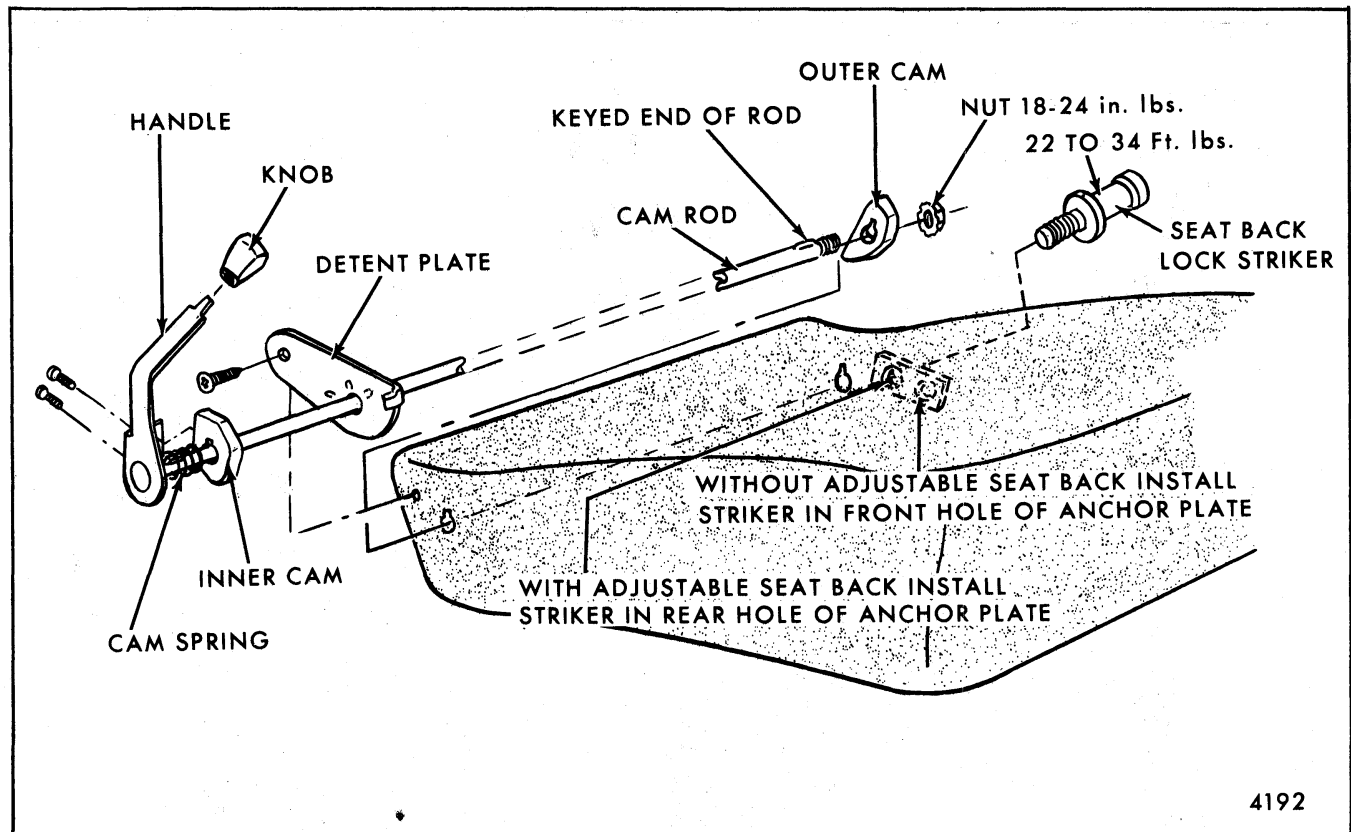
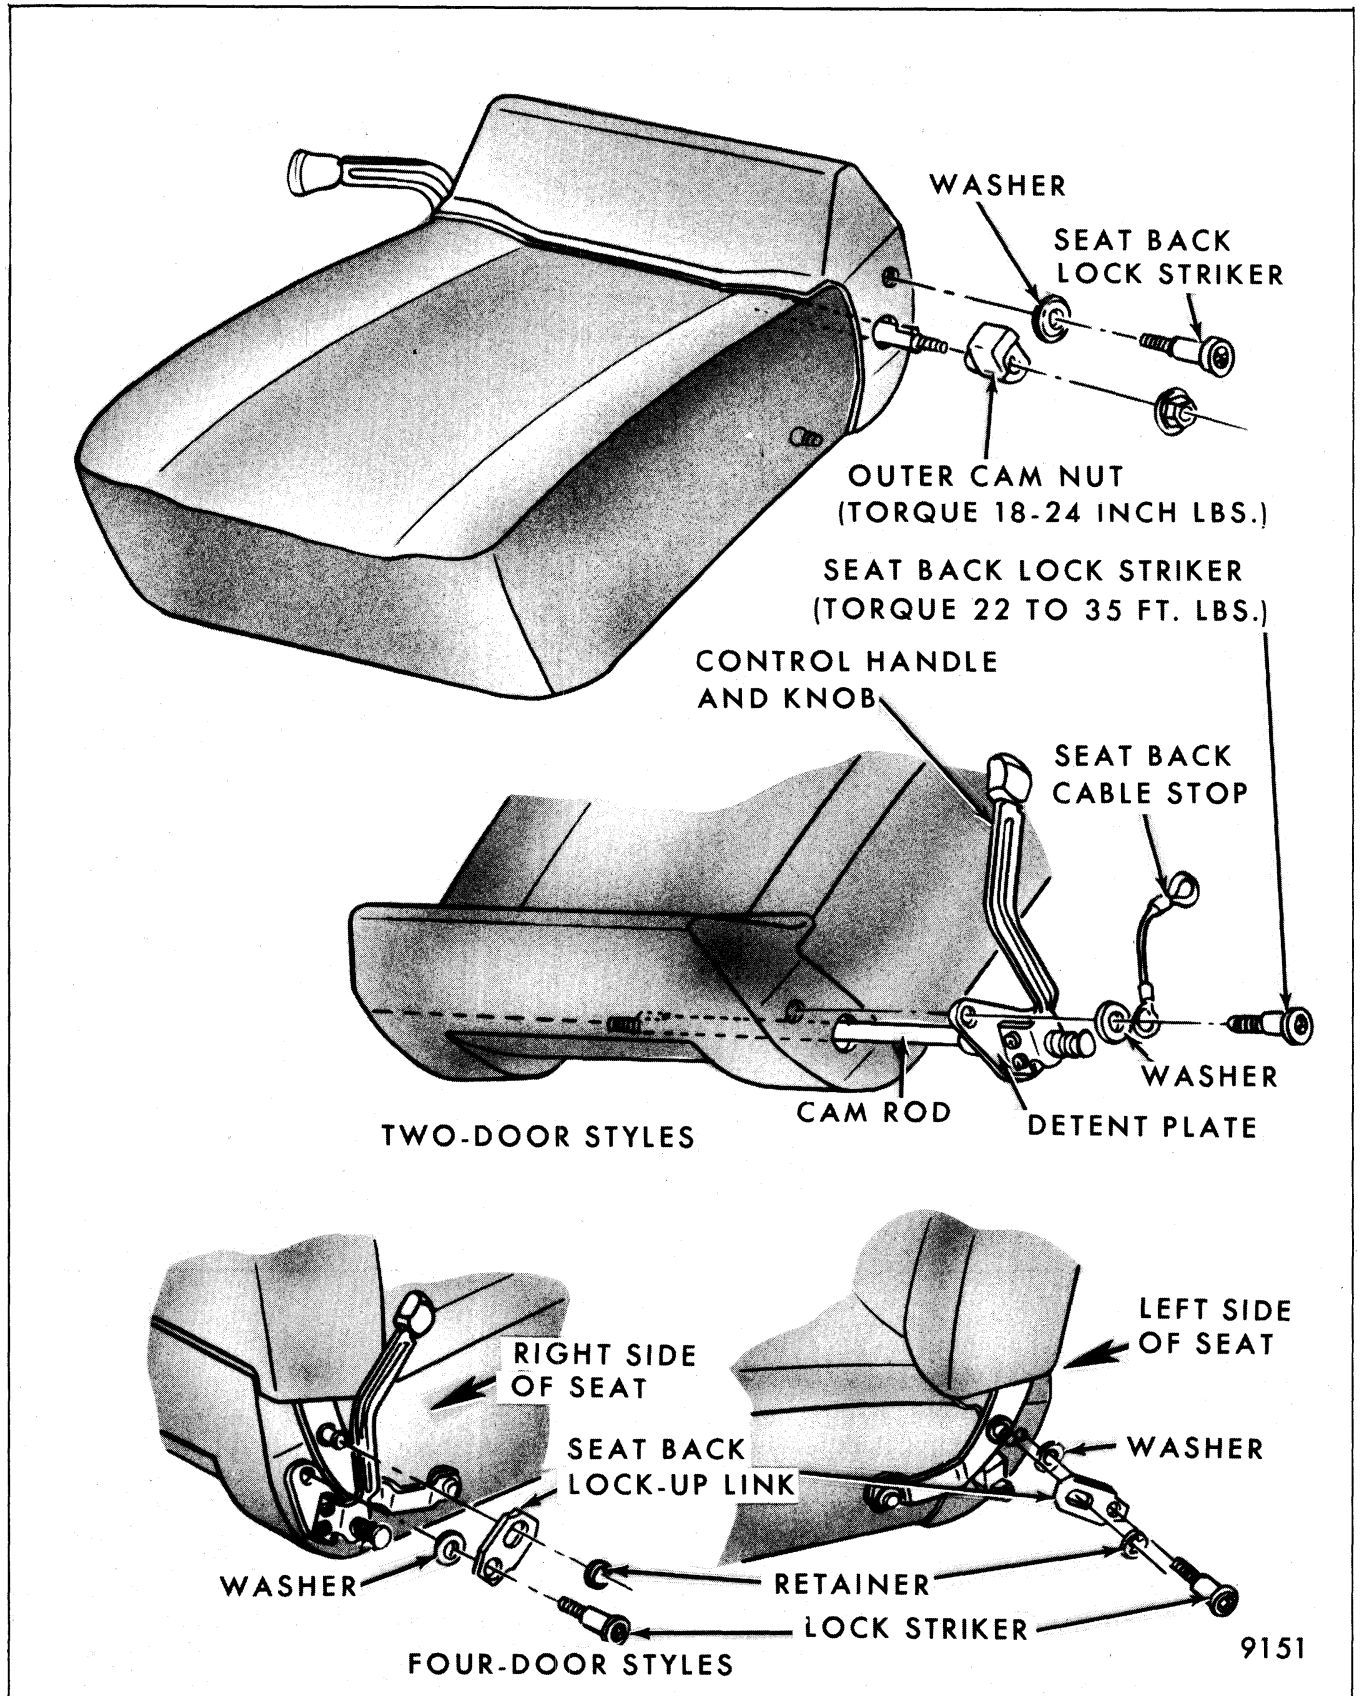

Fig. 9-63-Adjustable Driver's Seat Back Handle, Cams, Cam Rod, Detent Plate and Spring Removal and Installation from Seat Cushion - Chevrolet "F and H" Styles
Fig. 9-64-Adjustable Front Seat Back Assembly (Driver's Side Only) - Chevrolet "X" Coupes and Sedans
Refer to Figure 9-63 for "F and H" styles or Figure 9-64 for "X" styles.
2. At left side of seat, remove nut securing outer cam to cam rod (see Fig. 9-63) and remove cam from rod.
3. To remove cam rod, pull rod out of seat cushion from right side of seat (see Fig. 9-63).